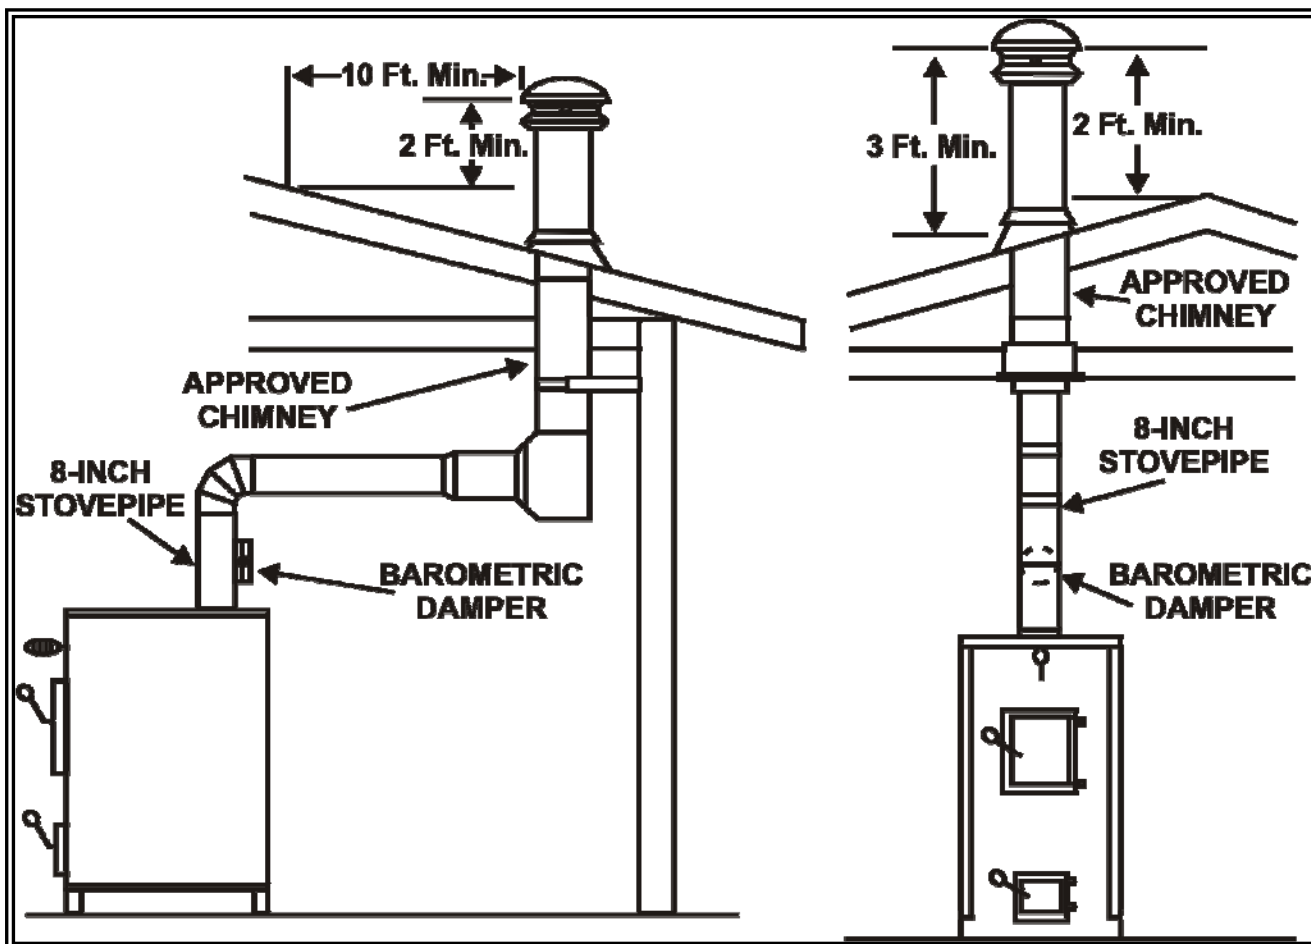
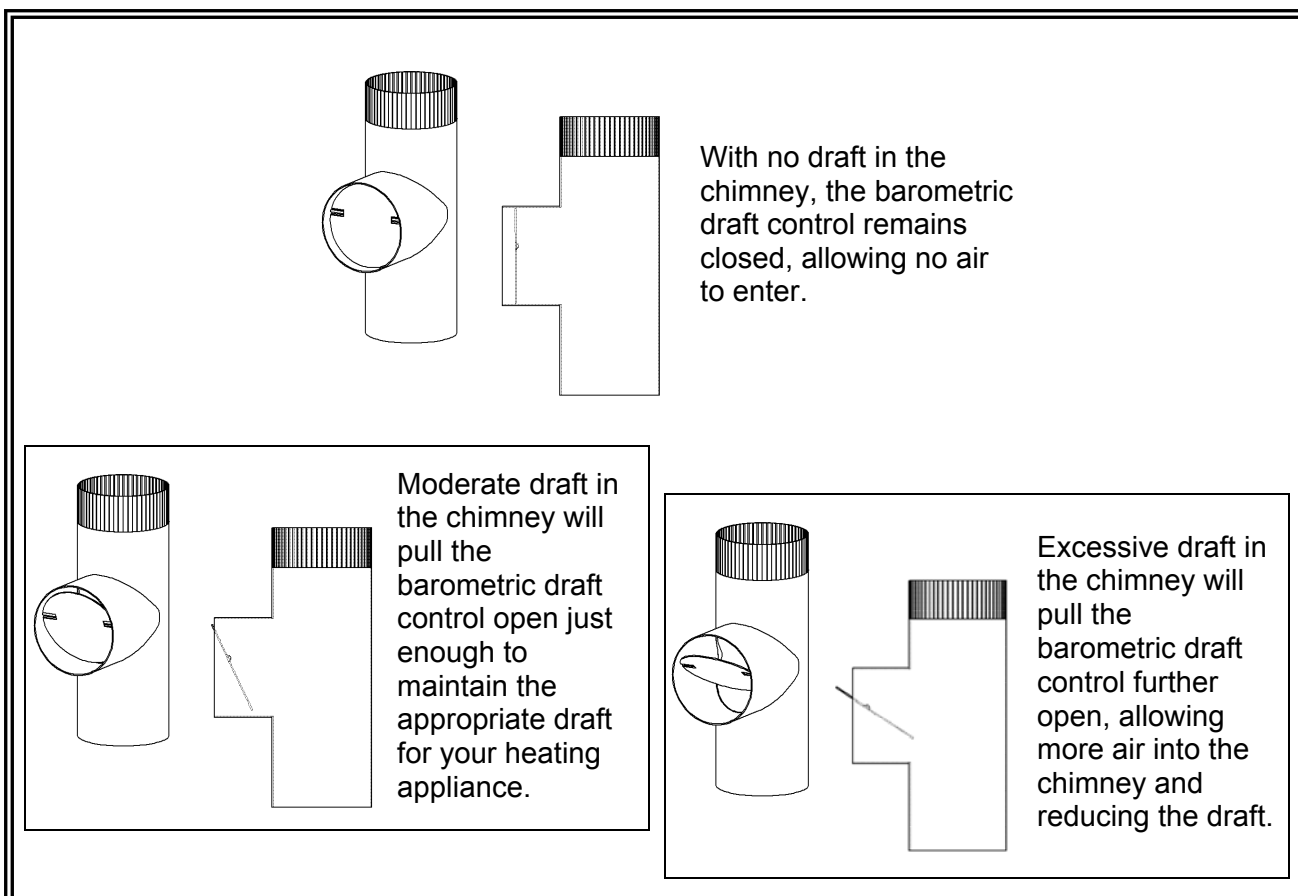

Figure 8: Venting Requirements
Figure 10: Barometric Draft Control
- The chimney must be at least 3 feet higher than the highest point where it passes through the roof, and at least 2 feet higher than the highest part of the roof or structure that is within 10 feet of the chimney, measured horizontally. Please refer to *Figure 8: Venting Requirements*.
A barometric draft control must be installed into the chimney connector. Please refer to *Figure 8: Venting Requirements* and *Figure 10: Barometric Draft Control*.